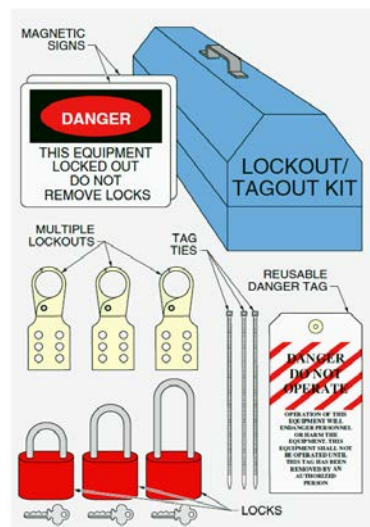

Figure 1: Lockout/Tagout Kit
- To avoid possible injury if door equipment operates unexpectedly, assure that **power** to the door operator and control power is **shut off and remains off** until personnel are safely clear of moving parts. Follow lockout/tagout procedures as per your authority (figure 1).